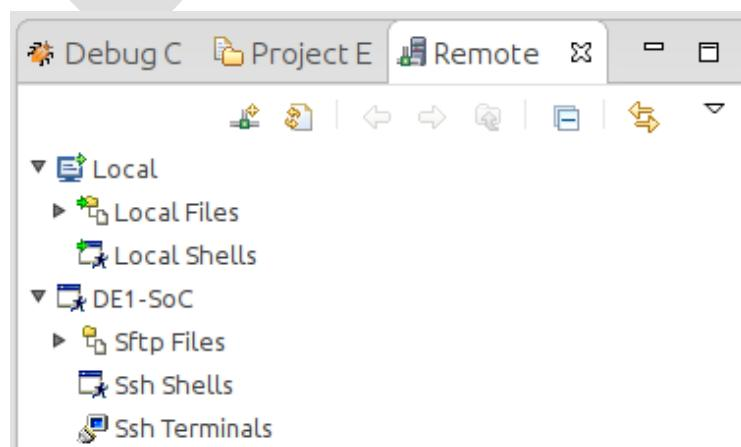

Figure 8-48. New SSH Connection In "Remote Systems" View
17. You should be able to see the remote system in ARM DS-5’s “Remote Systems” view, as shown in Figure 8-48.